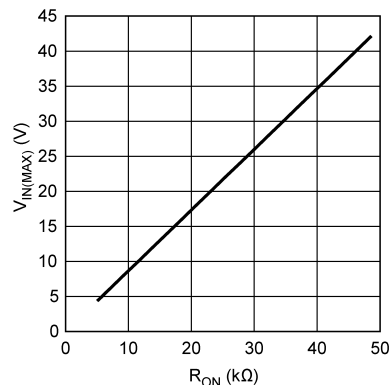

Figure 7. Maximum V_{IN} for selected R_{ON}
If R_{ON} calculated from (2) is smaller than the minimum value determined in (8), a lower frequency should be selected to re-calculate R_{ON} by (2). Alternatively, $V_{IN(MAX)}$ can also be limited in order to keep the frequency unchanged. The relationship of $V_{IN(MAX)}$ and R_{ON} is shown in Figure 7.